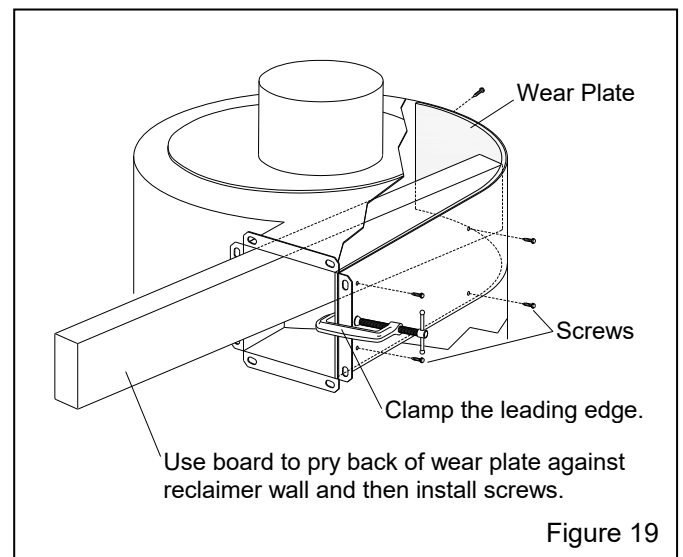

Figure 19
7.5.1 Replace wear plate in reclaimer with welded-on, nonremovable top, 300 cfm – Figure 19